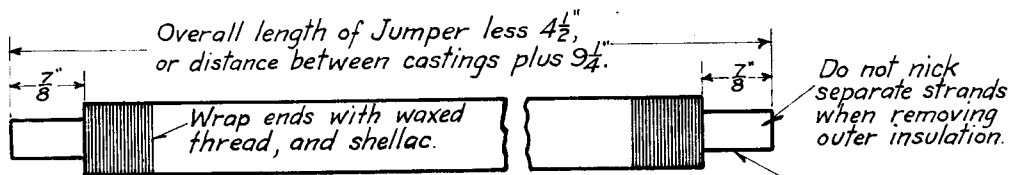

FIG. 63
- 2 Prepare cable as shown in Fig. 63.